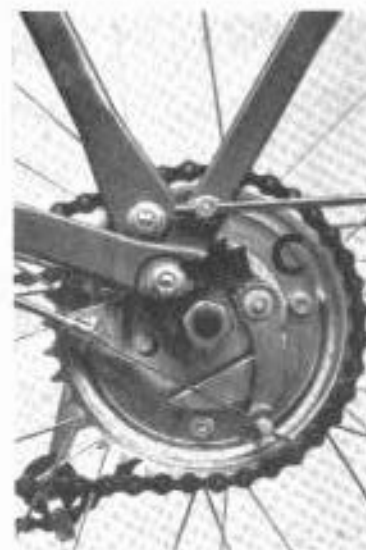

Fig. 25-2
- 3) Slacken the 2 nuts on the chain tensioner (item 1 above)
- 4) Slacken the 2 nuts (one each side) at the base of the frame stays "C" Fig. 25-2.
- 5) Pull the rear wheel backwards until the engine chain is tensioned as described on page 21. Make sure the wheel is properly centered in the frame and tighten the frame stay nuts "C" Fig. 25-2.